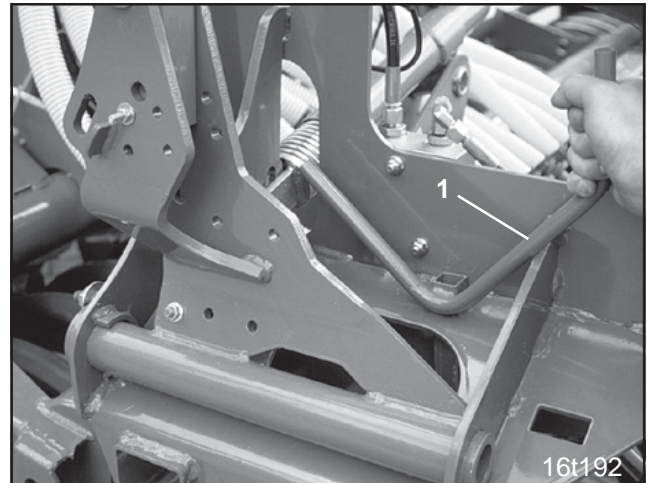

Fig. 10.6
Take the calibration crank in your hand. You will find the calibration crank (Fig. 10.6/1) in a retainer on the right hand lateral frame part and is secured with a clip pin.
- Insert calibration crank (Fig. 10.6/1) into its retainer